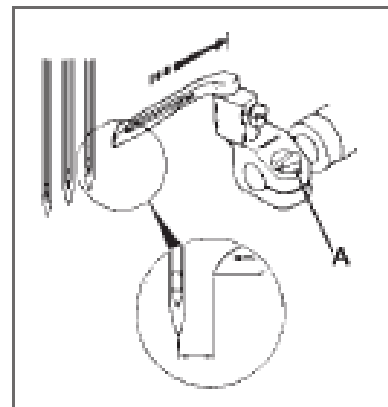

Fig. 6
4.8mm (48)	3.6 (C)
5.6mm (56)	3.2 (D)
To adjust the distance of the Loper at the extreme right position loosen Screw (A) of Loper Holder.(Fig. 6)